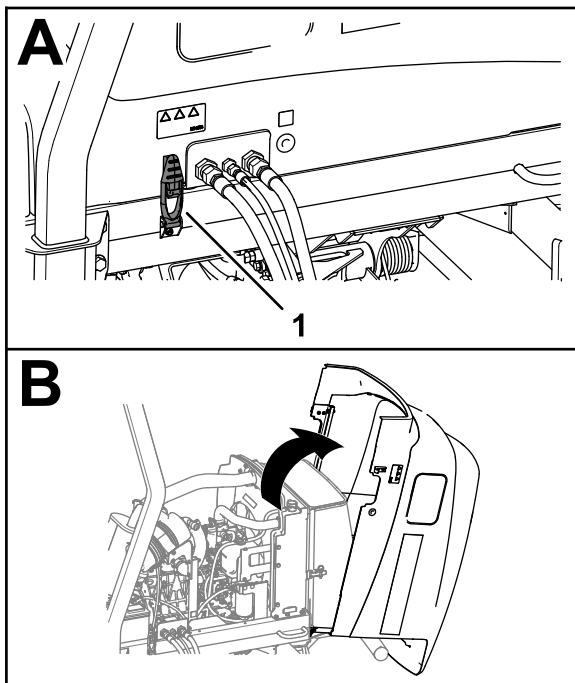

Figure 101
1. Release the 2 hood latches (Figure 101).